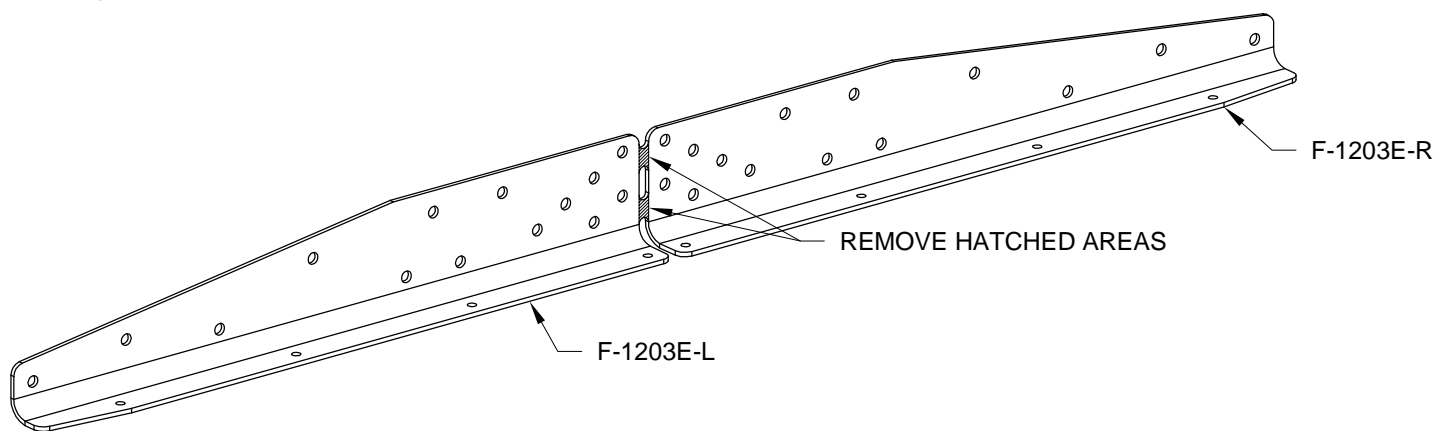

FIGURE 1: SEPARATING F-1203E
Step 1: Separate the two F-1203E by removing the hatched areas shown in Figure 1.